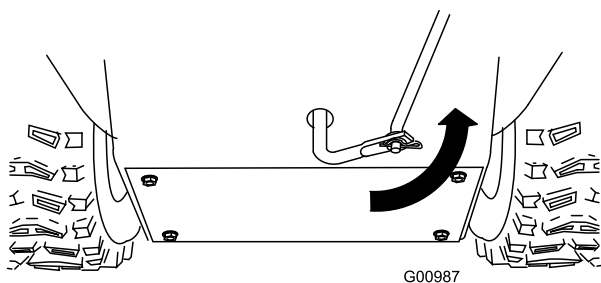

Figure 13
5. Rotate the lower link arm fully upward (counterclockwise) (Figure 13).